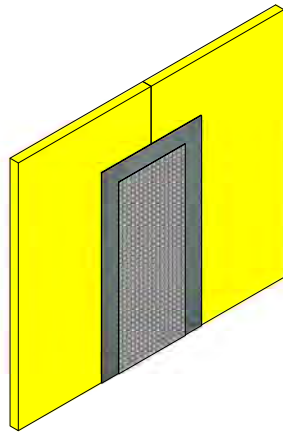

Figure 2
2. Lay the SHEATHING FABRIC into the wet ACROSTOP-R. (See Figure 2)